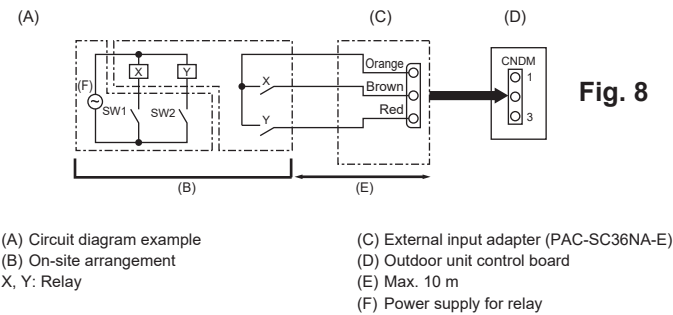

Fig. 8
- 8.1. Low noise mode (on-site modification) (Fig. 8)**
- 8.2. Demand function (on-site modification) (Fig. 8)**